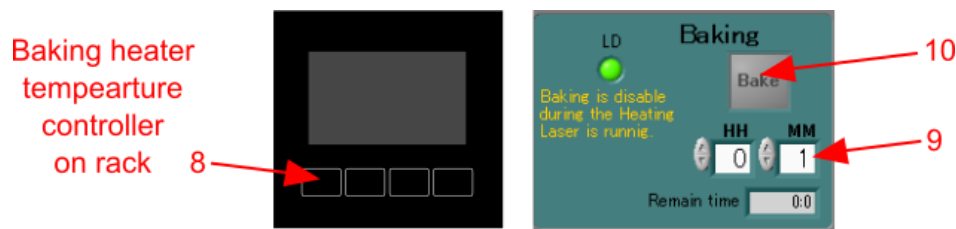

Figure 6: Baking heater control part of vacuum controller sub-window in PC software.
- (8) Adjust chamber baking temperature with baking heater controller on the panel of the control rack (see Figure 6).
- (9) Set turn-off time in the baking heater control part (see Figure 6).
- (10) Turn on the baking heater by pushing the button in the baking heater control part (see Figure 6).
- (11) The baking heater automatically turns off at set off-time. Don't move the units/parts like shutters or motorized mechanisms in the PLD chamber during the baking.
- (12) Recover the PLD system by mounting parts and connection of the cables/pipes after chamber baking. And do "homing" procedure to go back to origin (zero) position for motorized mechanisms (see item (2) of sec 3.6 in system manual).